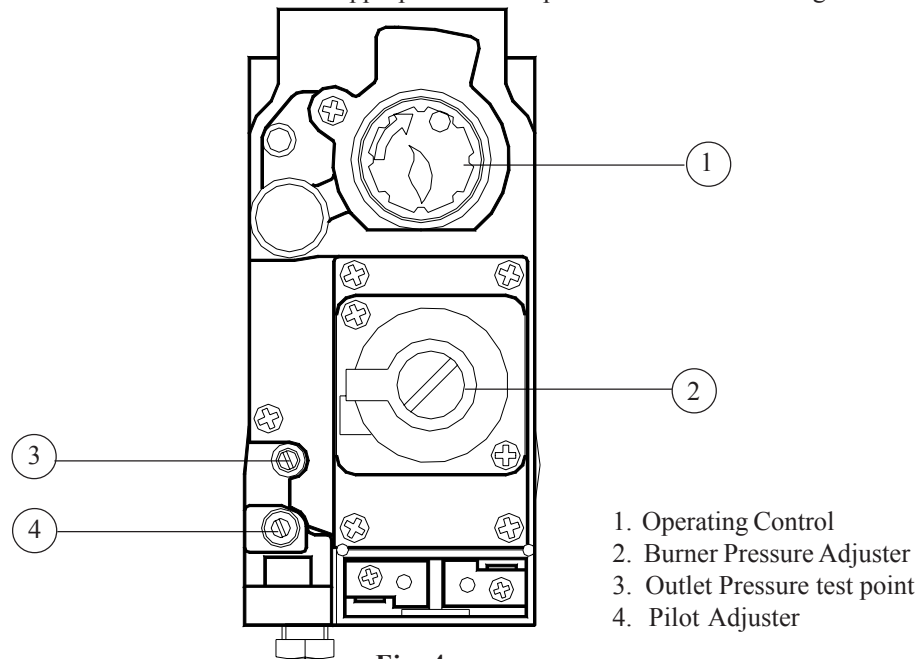

**Fig. 3**
- 6.3.6 Ensure that the pilot flame envelops the thermocouple tip, adjusting the Multifunctional Control Pilot Adjuster as required (refer Fig. 3).